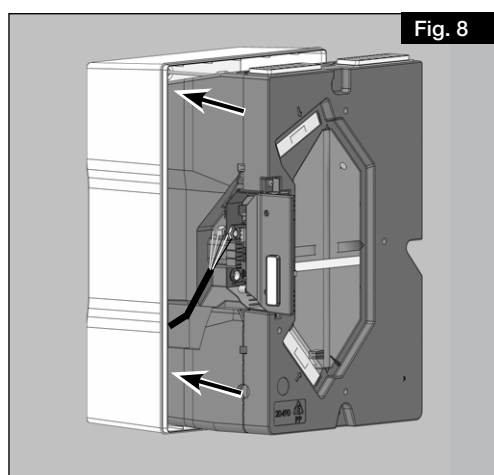

Fig. 8
3. Push the unit halfway into the surface-mounted housing so that the mains cable can be connected (see Fig. 8).